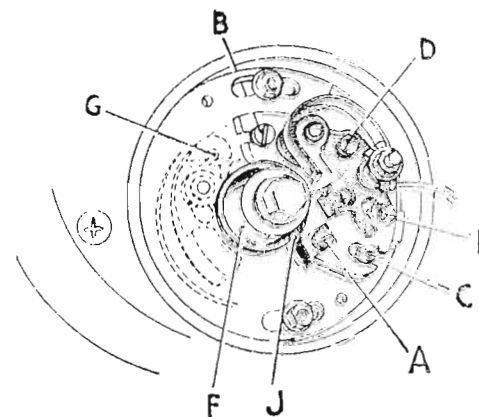

FIGURE 13.
#### CONTACT BREAKER (FIGURE 13)
Inspect the mechanism whenever the contact breaker gap is checked, and make sure that the two governor weights (FIG. 13) move freely. (Before removing the contact breaker plate, scribe a line across the plate and its housing so that it can be replaced in exactly the same position, otherwise the spark will have to be retimed).
Should adjustment be required, slacken the two screws (A) and (B) FIG. 13, which secure the plate carrying the contact breaker assembly and adjust the eccentric pin (C) until the points are just opening and the above condition obtained. Retighten the screws securely.
If the spark setting is not correct, slacken the two screws (A) and (B) FIG. 13, which secure the plate carrying the contact breaker assembly and adjust the eccentric pin (C) until the points are just opening.